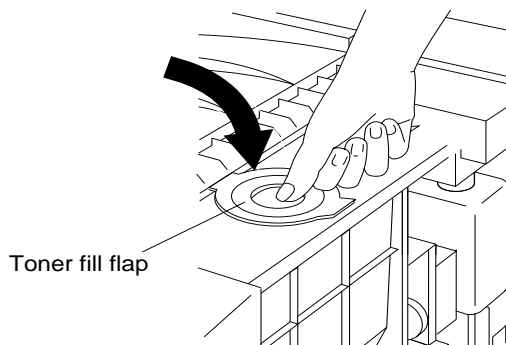

Figure 4-4 Closing the Toner Fill Flap
9. Close the toner fill flap, as shown in Figure 4-4.